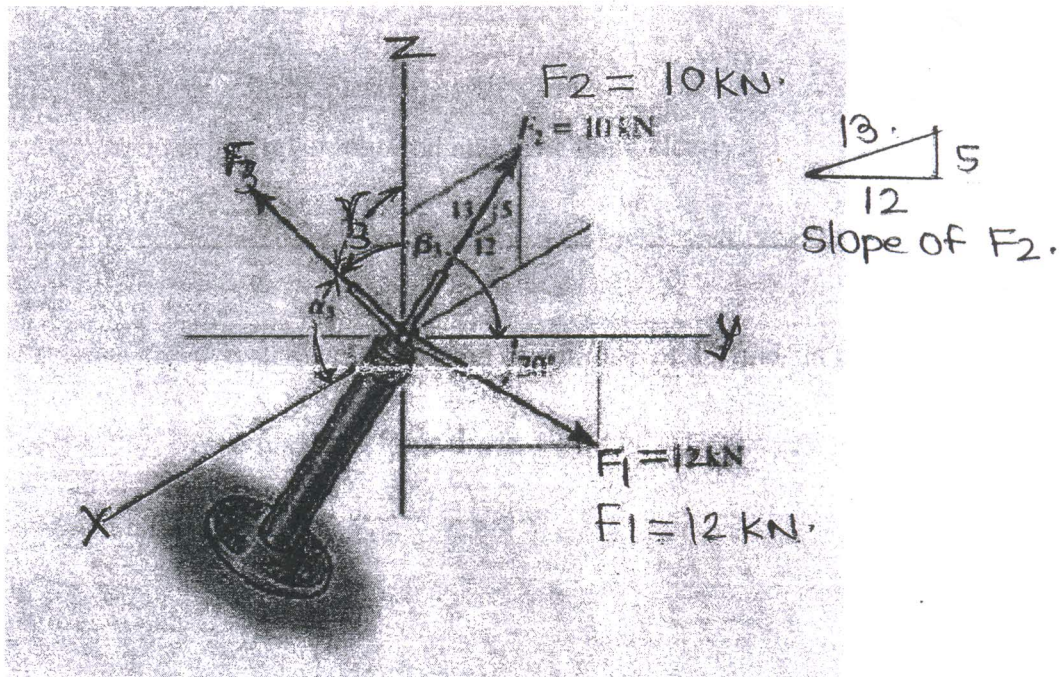

Fig.Q.1
Q.1 Fig. Q.1 shows a space force system. Specify the magnitude of F_3 and its coordinate direction angles α_3 , β_3 and γ_3 so that the resultant force $F_R = \{9j\}$ kN. Angle made by F_3 with X-axis = α_3 , with Y-axis = β_3 and with Z-axis = γ_3 .